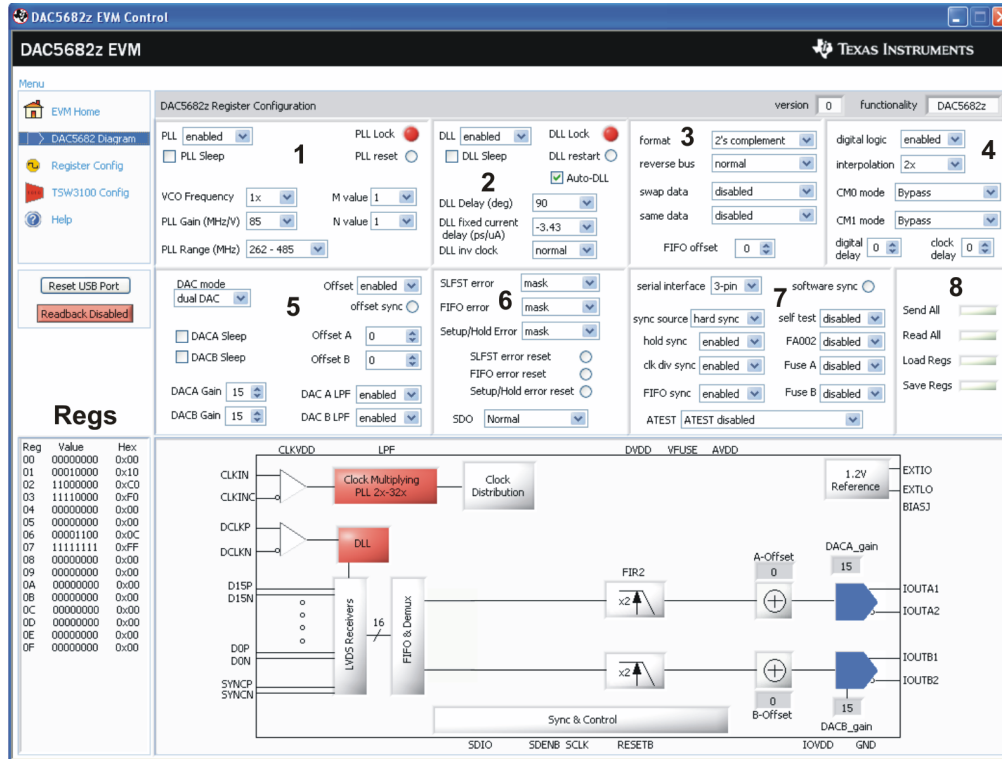

Figure 14. DAC5682Z Block Diagram and Register Configuration Settings
- **DAC5682z Register Table**—displays DAC5682Z register settings in binary and hexadecimal formats (Figure 14 - Regs).
DAC5682z Register Table Area (See <a href="#">Figure 14</a>, <a href="#">Figure 15</a>, and <a href="#">Figure 16</a>)